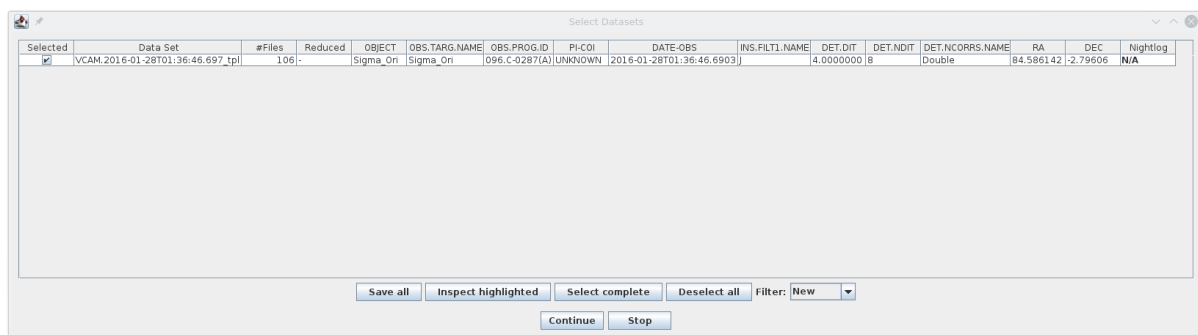

Figure 6.3: The “Select Datasets” pop-up window.
7. The `Data Set Chooser` actor will be highlighted next and will display a “Select Datasets” window (see Figure 6.3) that lists the datasets along with the values of a selection of useful header keywords⁷. The first column consists of a set of tick boxes which allow the user to select the datasets to be processed. By default all complete datasets which have not yet been reduced will be selected. A full description of the options offered by the `Data Set Chooser` will be presented in Section 8.3.2.